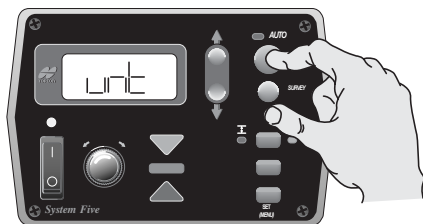

Figure 35. Select Units
1. From the Performance Menu, press the Auto button to select Units (Figure 35).